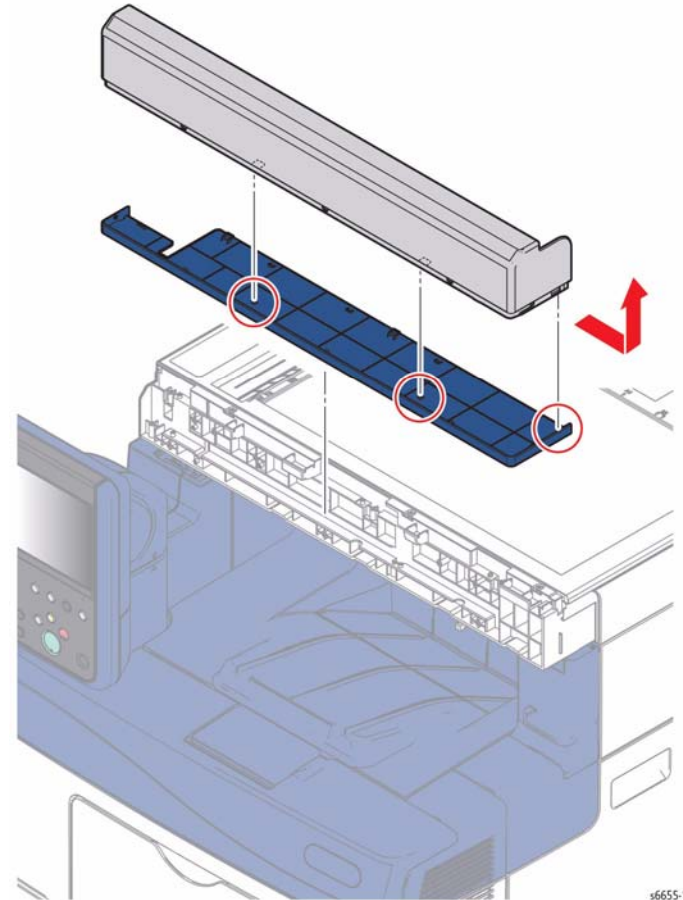

Figure 1 Remove the IIT Front Bottom Cover
2. Referring to Figure 1, detach the left end of the Front Bottom Cover from the Front Cover, then separate the covers.